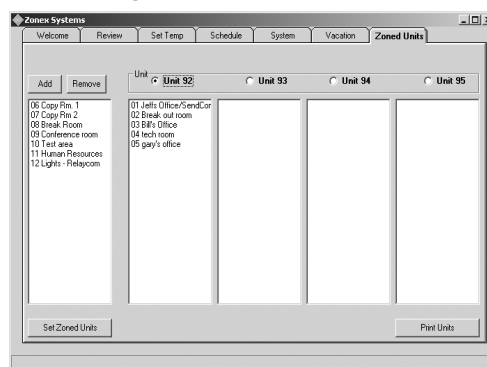

Fig. 29
5. It is important to confirm that the correct thermostats are assigned to that **RMOD** (see Fig. 29).